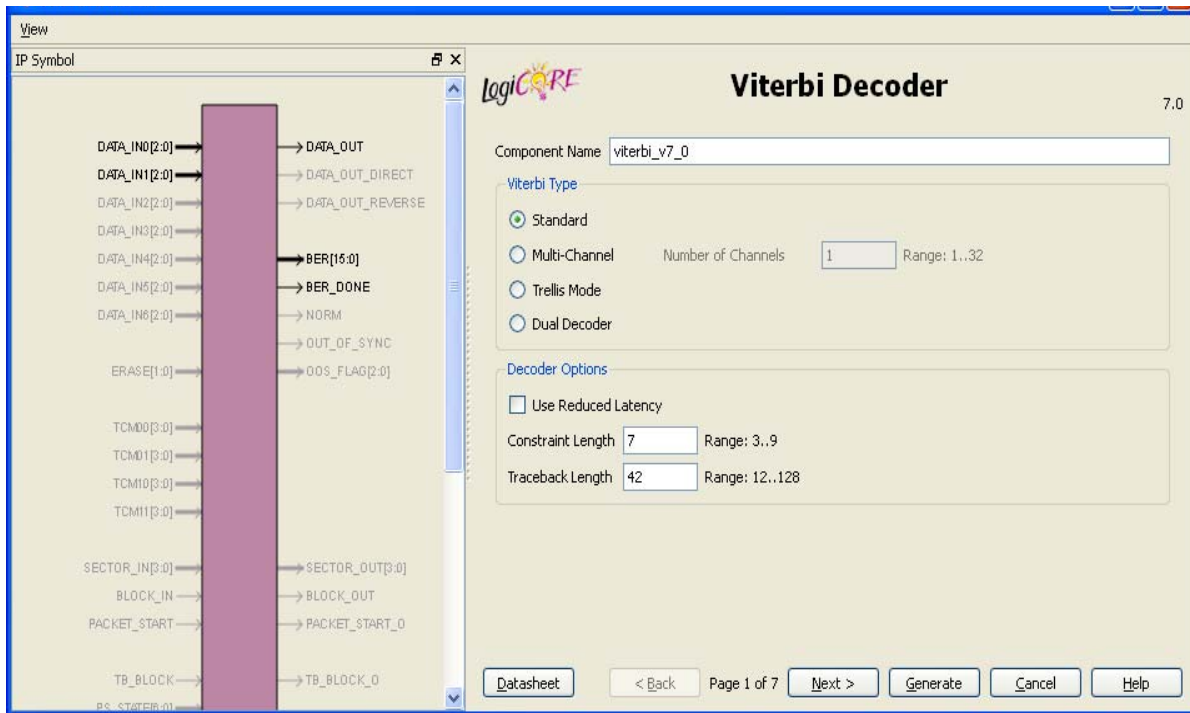

Figure 15: Viterbi Decoder Screen 2 (Architecture, Best State, and Data Format)
- See Figure 15. The parameter descriptions for this screen follow.